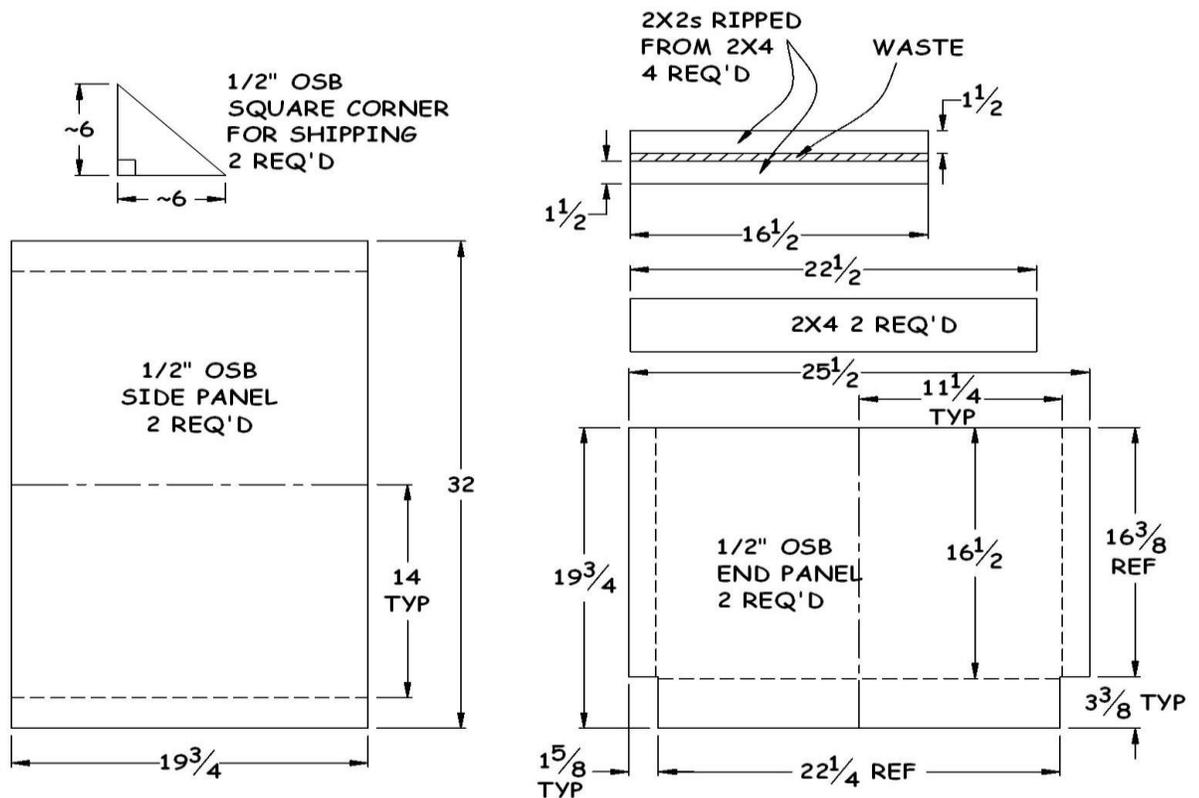
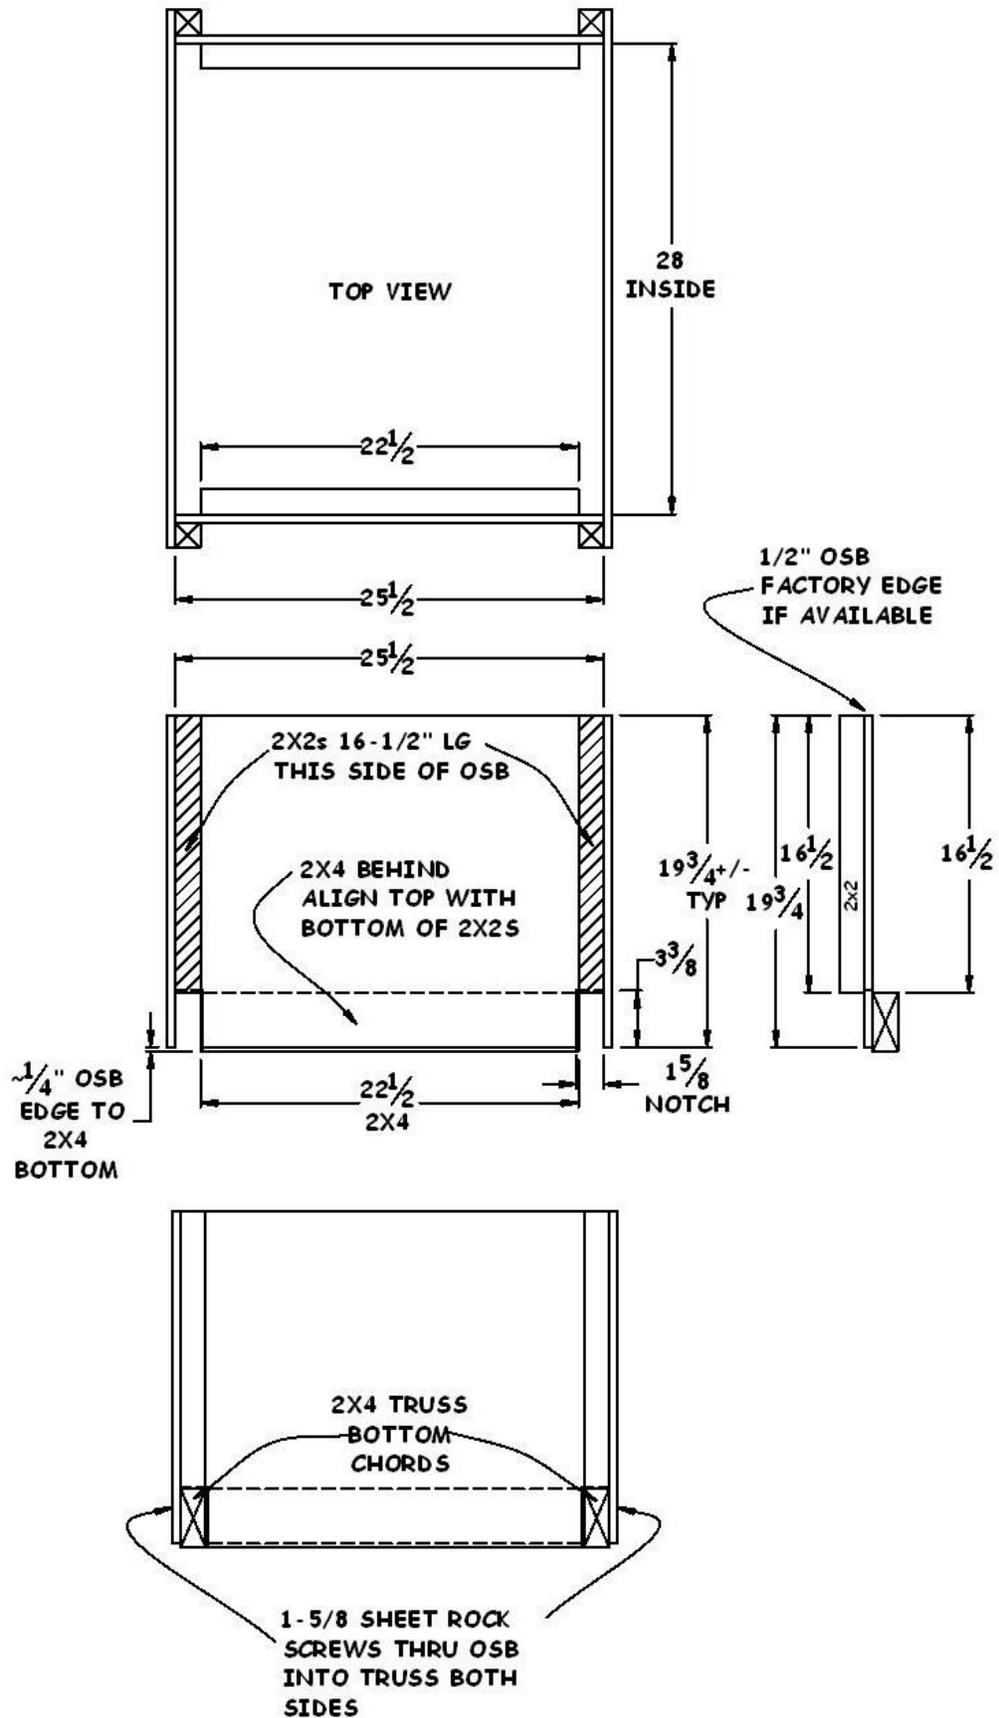

Figure 7-5. Scuttle Box Cut Diagram.
Figure 7-6. Scuttle Box Assembly.
1. Typically, the scuttle box is pre-built and delivered to the site prior to the day it is to be installed. However, if it has not been built, use the following instructions to build one. See Figure 7-4 for a picture of the finished scuttle box and Figure 7-5 and Figure 7-6 for schematic drawings.